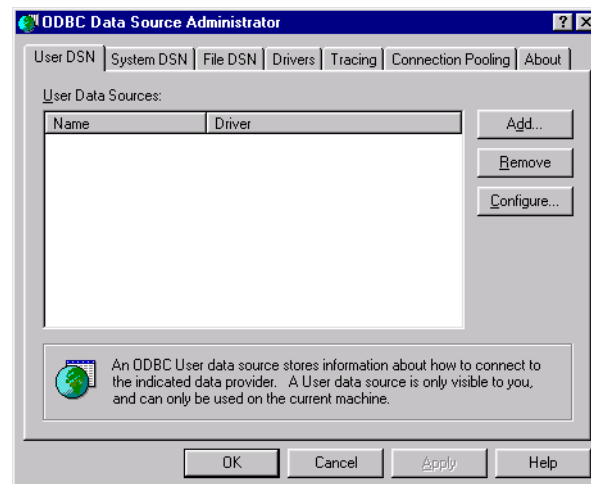

Figure B-19: ODBC Data Source Administrator Window
3. In the ODBC Data Source Administrator window (Figure B-19), click the Add button.